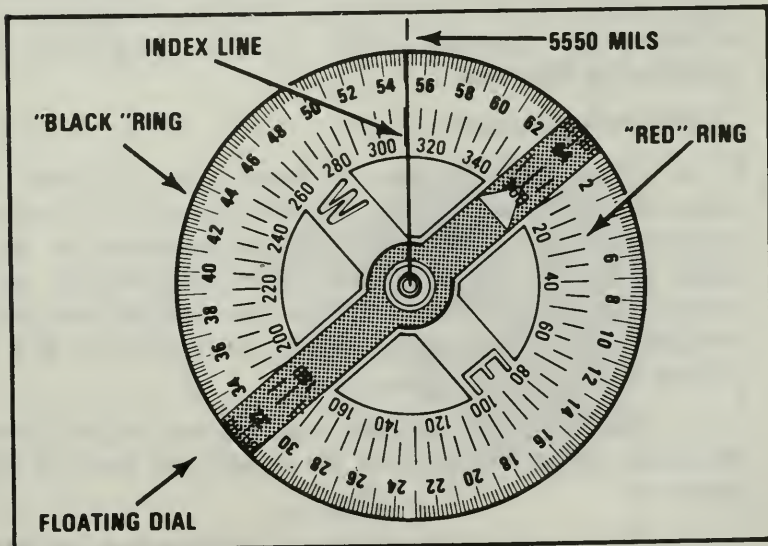

Figure 36. Lensatic compass floating dial.
b. The outer, black ring of numbers and tick marks are used for finding direction in mils (Figure 36).
(1) There are 360 degrees or 6400 mils in a circle. These are marked with a tick mark every 5 degrees and 20 mils. However, not every tick mark is numbered.
(2) To read direction, point the compass in the direction you want to go or want to determine.
(3) Look beneath the index line on the outer glass cover and estimate to the nearest degree or 10 mils the position of the index line over the red or black scale.
(4) Be careful to hold the compass still so that the dial remains stationary while you are reading the scale.
(5) In Figure 36, the readings are 312 degrees (red scale) and 5500 mils (black scale).
(6) If you understand these readings and can apply either of the holding and sighting techniques of shooting an azimuth, you will be proficient in performing this task.